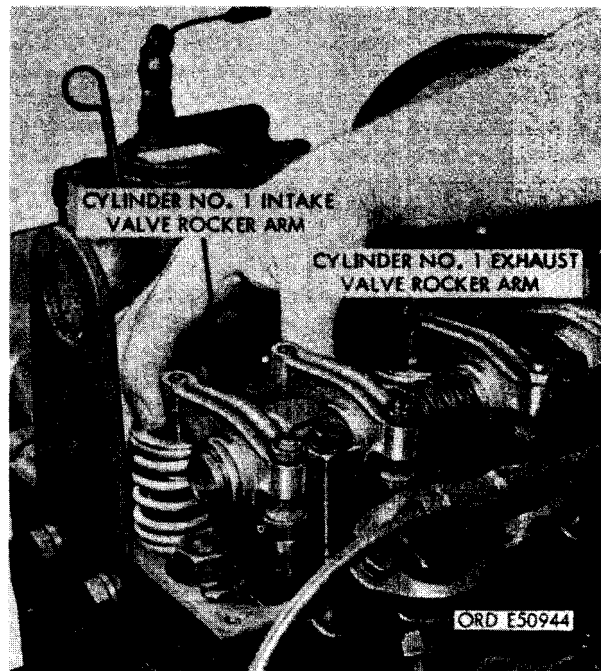

FIGURE 63. CHECKING FUEL INJECTION PUMP TIMING (CYLINDER NO. 1 INTAKE AND EXHAUST VALVES CLOSED).
- (9) After removing front cylinder head cover ((8) above) check position of cylinder No. 1 intake or exhaust valves as shown in figure 63. When both valves
- (b) Both the intake and exhaust valves must be closed (fig. 63).